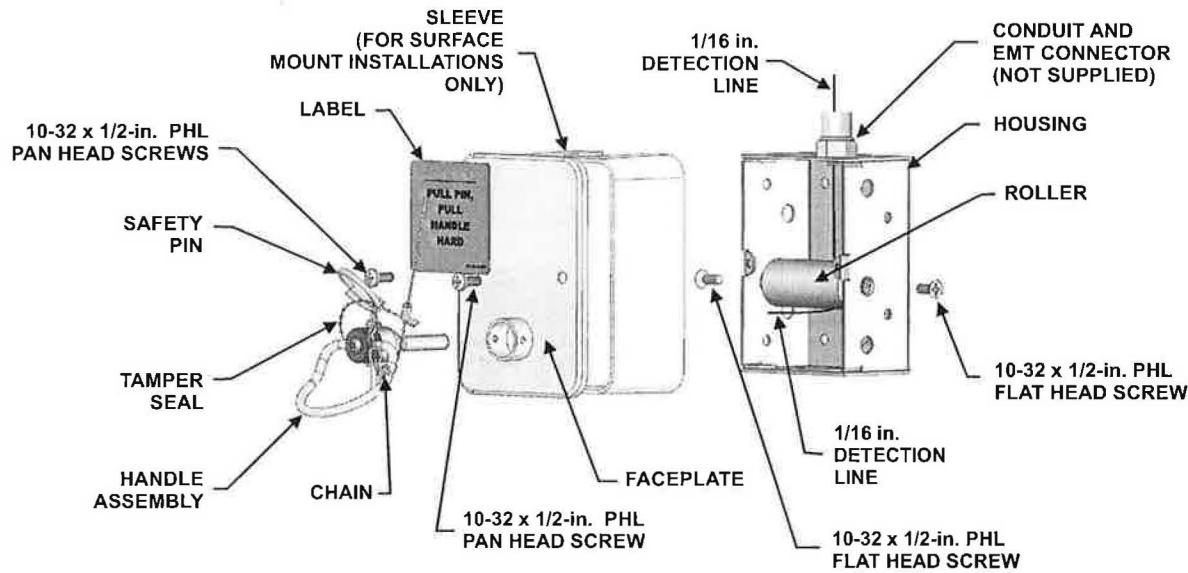
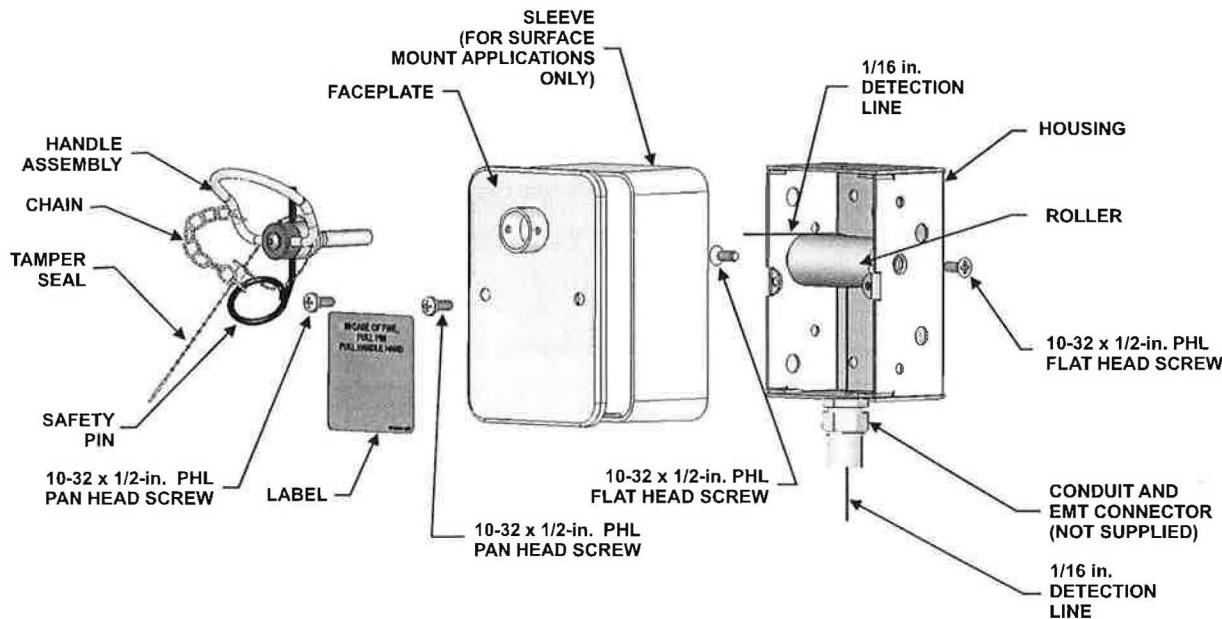

Figure 4-55. Remote Manual Release Pull Station, Pull-to-Trip (EMT/Conduit at Top)
Figure 4-56. Remote Manual Release Pull Station, Pull-to-Trip (EMT/Conduit at Bottom)
4. Install the roller to the housing using the #10-32 x 1/2-inch flat head screws provided. If the EMT/Conduit is at the top, refer to Figure 4-55. Route 1/16-inch (2 mm) diameter stainless steel detection line cable as shown. If the EMT/Conduit is at the bottom, refer to Figure 4-56. Route 1/16-inch (2 mm) diameter stainless steel detection line cable as shown.